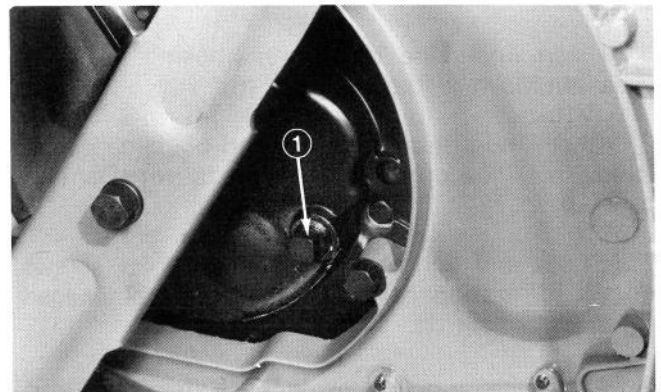

Figure 38
3. Tip mower on its left side, remove drain plug (Fig. 38) from bottom of engine, tip mower down over drain pan and allow oil to drain into pan.
3. Tip mower on its left side, remove drain plug from bottom of engine, lower mower into drain pan and allow oil to flow into drain pan (Fig. 38). After all oil is drained, install drain plug but do not fill crankcase with oil until steps 4 through 9 are completed.